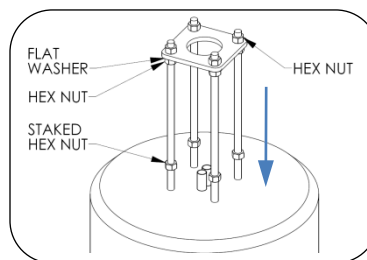
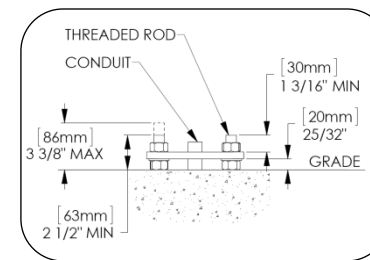

Fig. 4 - Anchor rod detail
Fig. 5 - Anchor rod detail
2. Install staked anchor bolts, hex nuts, washers and wooden template as shown in Fig 4 and Fig. 5. Level template in all directions.